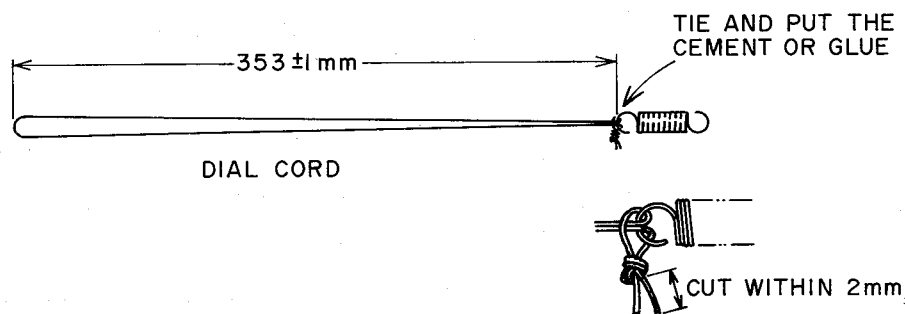

Fig. 5-1
1. Build a Dial Cord as shown Fig. 5-1.